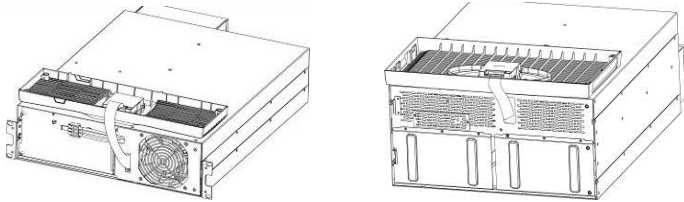

Figure 7: Front cover of the XANTO S 6000 and 10000
3. Remove the front cover (see Figure 7).